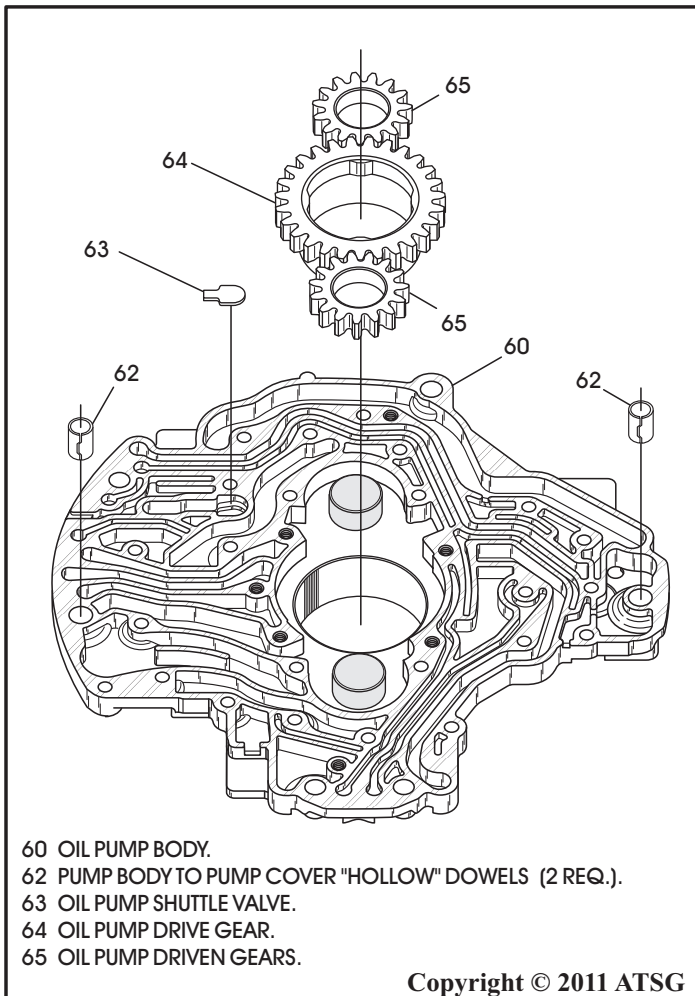

Figure 113
8. Install the alignment dowels into oil pump body, if they were removed, as shown in Figure 113.
9. Dip all 3 of the pump gears into Mopar® +4 fluid and install them in their *original* locations, shown in Figure 113.
10. Install the shuttle valve into the oil pump body in the location shown in Figure 113.